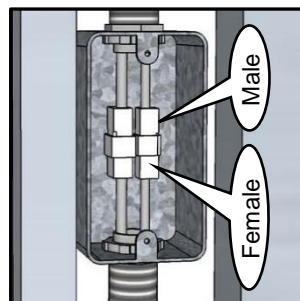

Figure 21
- 2** On 2-stop dumbwaiters, one set of wires has female connectors and the other set has male connectors. Match up each male and female connector and seat them firmly together. **(see Figure 21)**